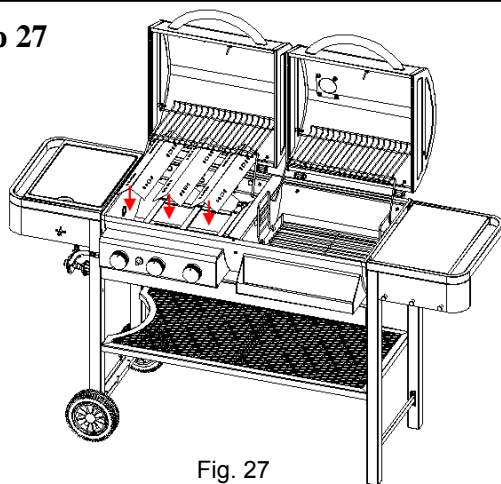

Fig. 27
*Locate :* (3) Heat Tents
*Procedure:* Refer to Fig. 27 and place (3) Heat Tents over the Burners.